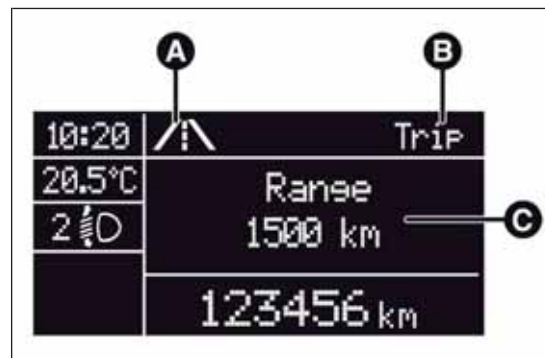

fig. 11
- ☐ animated icon in the upper part fig. 11;
- ☐ the word "Trip" (or "Trip A" or "Trip B") (B);
- ☐ the name, value and unit of measurement of the selected parameter (e.g. "Range 1500 km") (C).